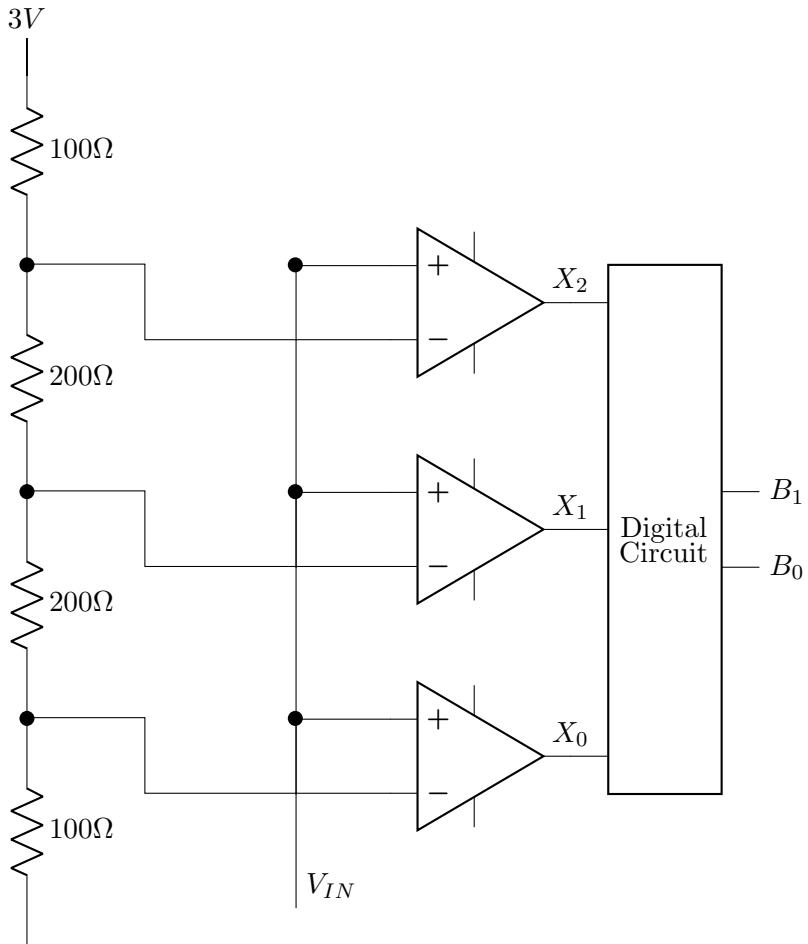

Figure 3.29:
52. A 2-bit flash Analog to Digital Converter (ADC) is given in Fig. 3.29. The input is $0 \leq V_{IN} \leq 3$ Volts. The expression of the LSB of the output B_0 as a boolean function of X_2, X_1 , and X_0 is (GATE EE2016 37)